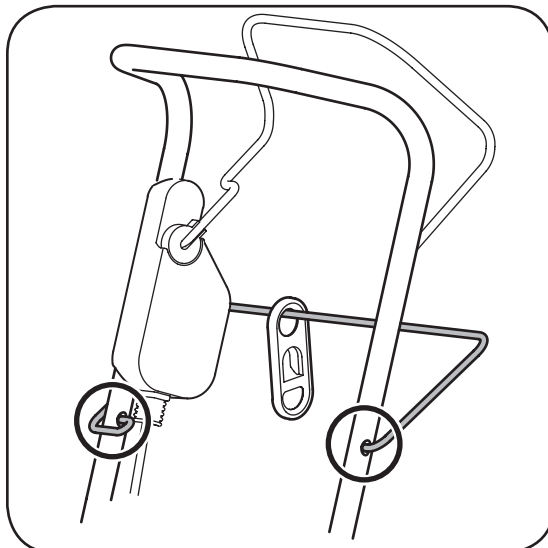

Figure 3-3: Attach cord guide bar with extension cord retainer.
3. Attach the cord guide bar with extension cord retainer to the upper handle as shown in Figure 3-3.